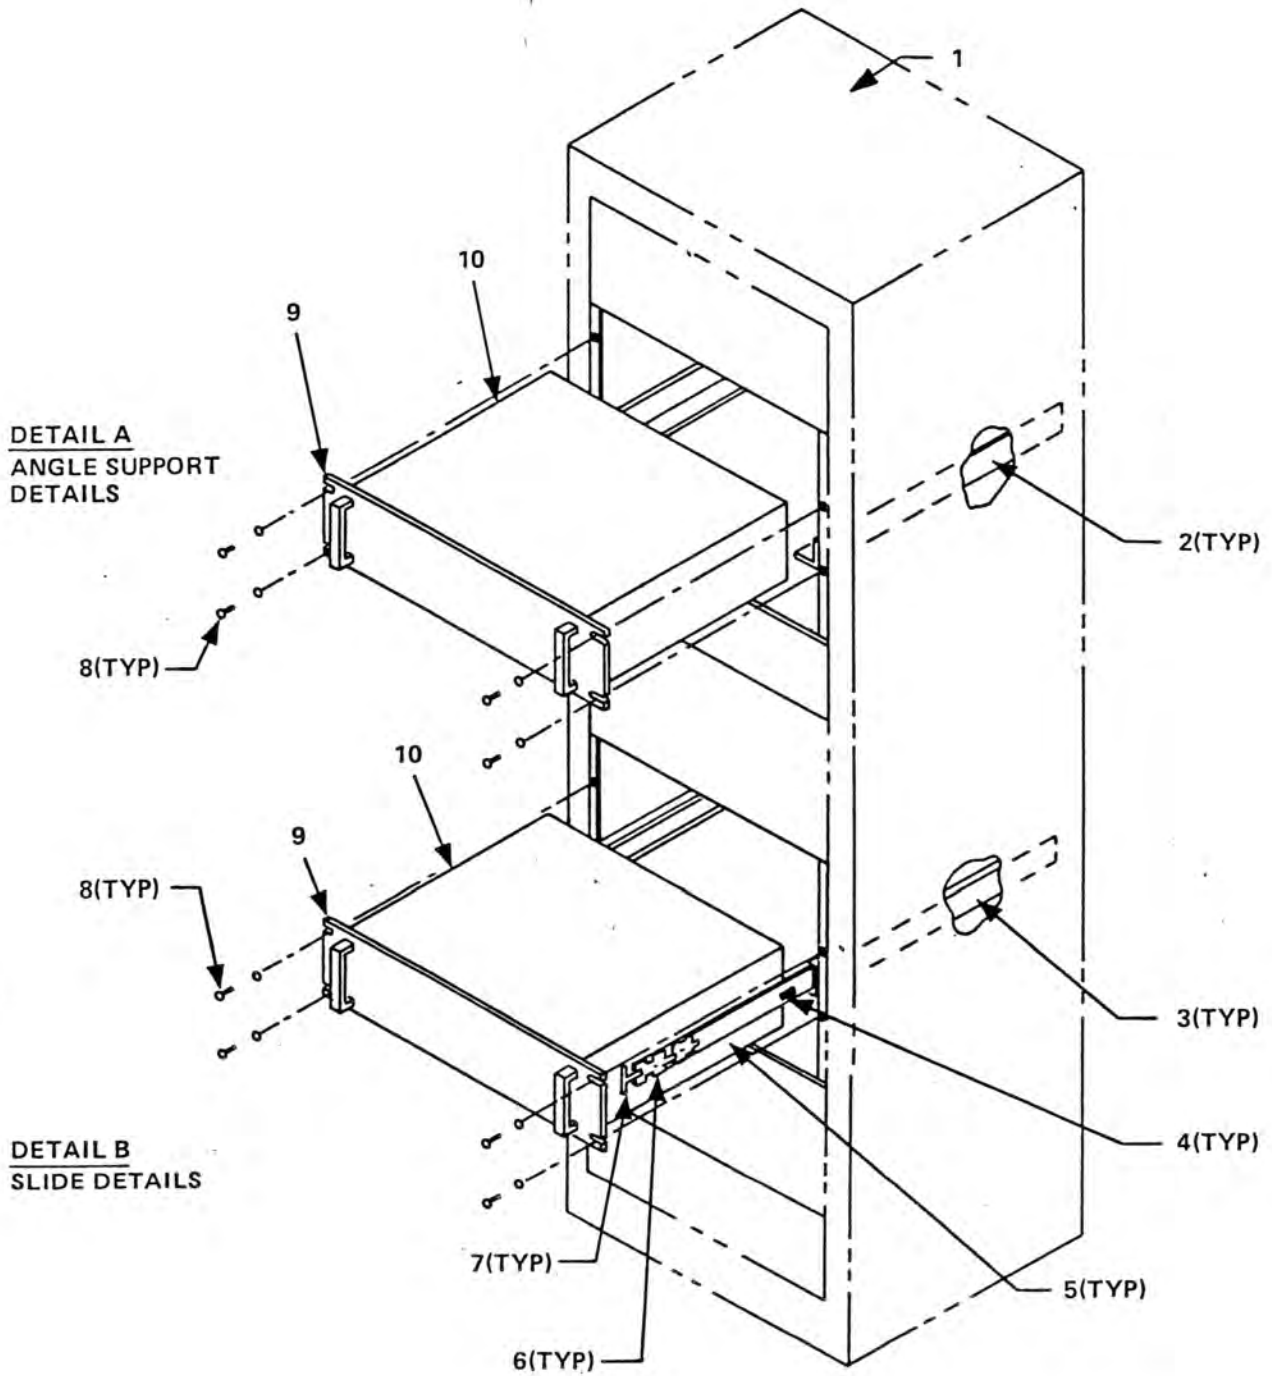

Figure 2-3. Rack Installation Options
2-11. Angle Support Installation. Ensure that angle supports are installed in the rack before proceeding. (See Detail A, Figure 2-3.)
1. Attach chassis section or rack slide to the Receiver and ensure that the stationary sections of the rack slide are installed in the rack. (See detail B, Figure 2-3.)